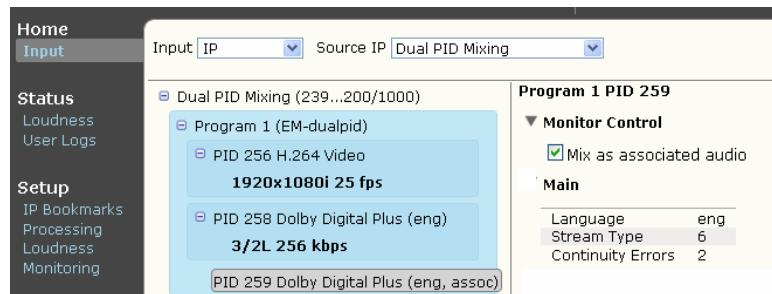

Figure 3-11 Mix Associated Audio
2. To mix an associated audio stream, select the stream to highlight it, then check the **Monitor Control/Mix as associated audio** box, as shown in Figure 3-11 (for PID 259).